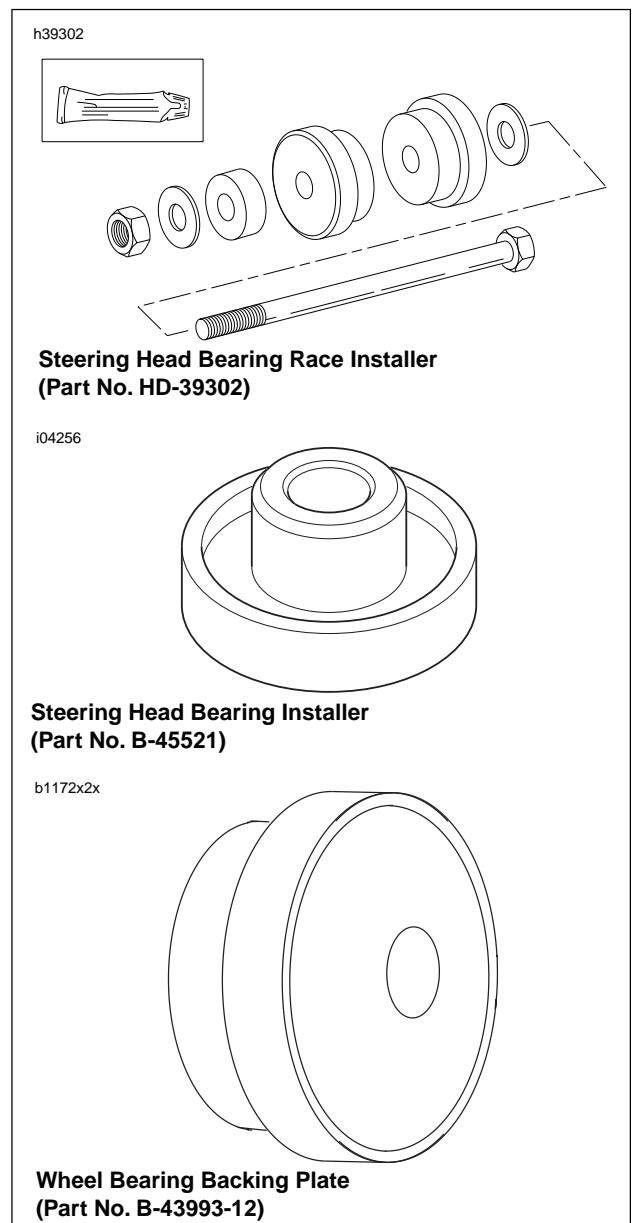

Figure 2-77. Steering Head Bearings Installation Tools
1. See Figure 2-77. Install **new** upper steering head bearing into the frame neck using STEERING HEAD BEARING RACE INSTALLER (Part No. HD-39302), the STEERING HEAD BEARING INSTALLER (Part No. B-45521) and backing plate (B-43993-12) from the wheel bearing installation kit.
- b. See Figure 2-77. Insert the steering head bearing installation tool into the upper bearing, with the shoulder into the bearing bore.